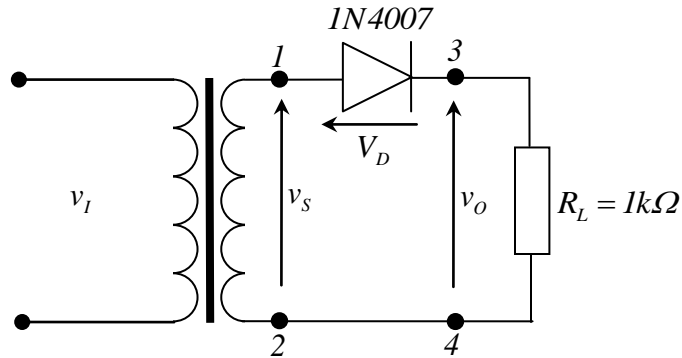

Figure 1. Half-wave rectifier circuit
Figure 1 shows a power transformer with a diode and a resistor connected to the secondary of the transformer. We will use the piecewise linear approach in analysing this circuit, assuming the diode forward resistance $r_f = 0$ when the diode is “on”.
- Assemble the circuit as shown in Figure 1 and apply an AC voltage of $V_S = 6V$ to terminals 1 and 2.